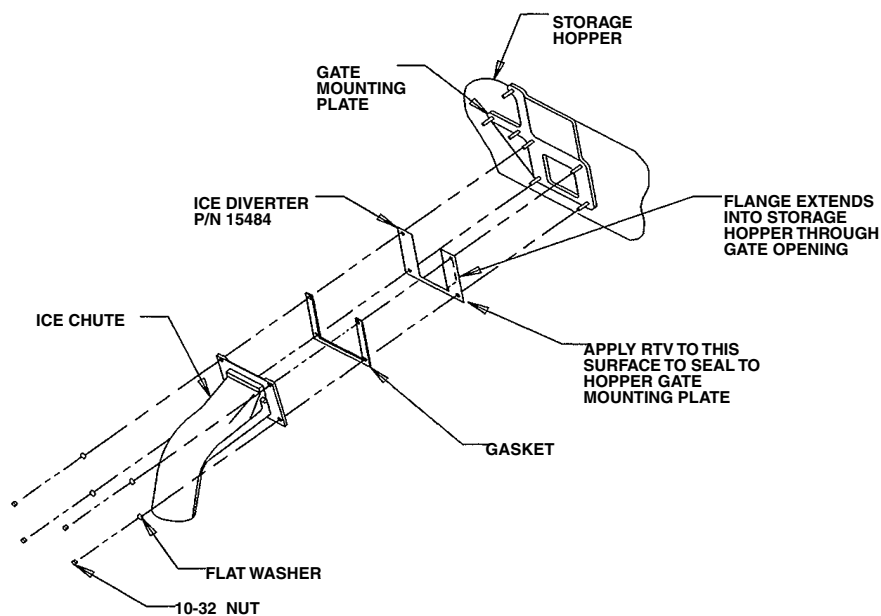

Figure 1. Exploded View of Ice Diverter Installation
3. Install ice diverter as shown (see Figure 1) and reinstall the gate restrictor removed in previous step. Gate restrictor should be installed in ‘front’ of ice diverter .